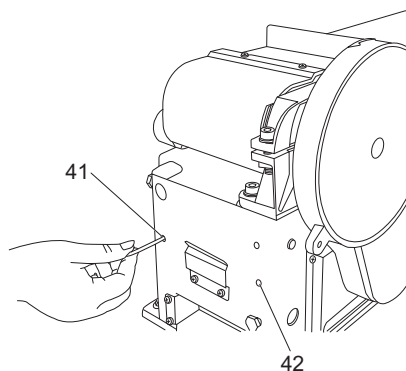

Fig. 46
- > The belt tensioners are shown in Fig. 46 “horizontal adjuster” (41) & “vertical adjuster” (42).
- > When squeezing the belt; If the motor pulley rises, adjust the “vertical adjuster” (42) with 3mm hex key until there is no more vertical play in the motor.